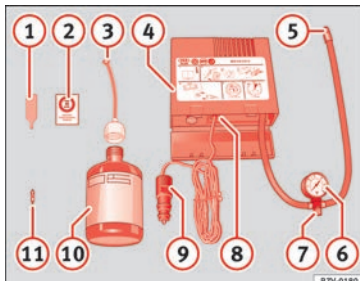

Fig. 128 Contents of the Tyre Mobility System.
- ② Sticker indicating the speed: “max. 80 km/h” or “max. 50 mph”
- ③ Flexible filling hose with cap
- ④ Compressor
- ⑤ Flexible tyre inflating hose
- ⑥ Tyre pressure gauge
- ⑦ Air release screw
- ⑧ ON/OFF button
- ⑨ 12 V cable connector » page 79
- ⑩ Can of sealant
- ⑪ Spare valve
The valve extractor ① » Fig. 128 has a slot in its lower end that fits onto the valve insert. This is used to remove the valve insert from the tyre and to replace it. This is also valid for the spare valve insert ⑪.
- Fix the sticker (2) » Fig. 128 » page 155 onto the dash panel where the driver will see it.
- Using the valve extractor (1), unscrew the valve insert and place it on a clean surface (cloth, paper, etc.)
- Shake the tyre sealant can (10) » Fig. 128 » page 155 thoroughly several times.
- Attach the flexible filling hose (3) onto the can (10). The foil sealing the can will be automatically pierced.
- Remove the cap from the flexible filling hose (3) and insert the open end as far as it will go into the tyre valve.
- Hold the can (10) upside down and fill the complete contents of the can into the tyre.
- Screw the valve insert back into the tyre valve using the valve extractor (1).
- Screw the tyre filling hose (5) » Fig. 128 » page 155 firmly onto the tyre valve.
- Make sure that the bleed screw (7) is closed.
- Plug connector (9) into the 12-volt power socket.
- Turn on the air compressor with switch (8).
- When an air pressure of 2.0-2.5 bar (29-36 psi/200-250 kPa) cannot be reached, unscrew the flexible tube (5) from the tyre valve.
- Screw the flexible hose from the air compressor (5) back onto the tyre valve and repeat the inflation process.